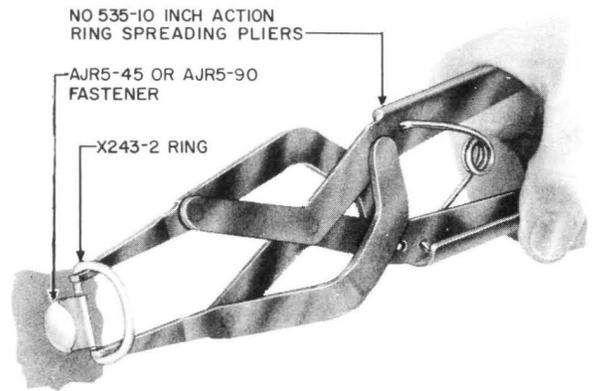

Fig. 9 - Method of Attaching Ring to Fastener
5.05 Where a ring is missing from an AJR5-45, AJR5-90, or similar type fastener but the fastener is secured in the mounting, proceed as follows. Place an X243-2 ring on the jaws of the action ring spreading pliers and expand the ring enough to permit the ends to be inserted into the fastener as shown in Fig. 9. Take care in doing this to expand the ring only enough to permit the ends to be inserted into the head of the fastener without overstressing the ring.